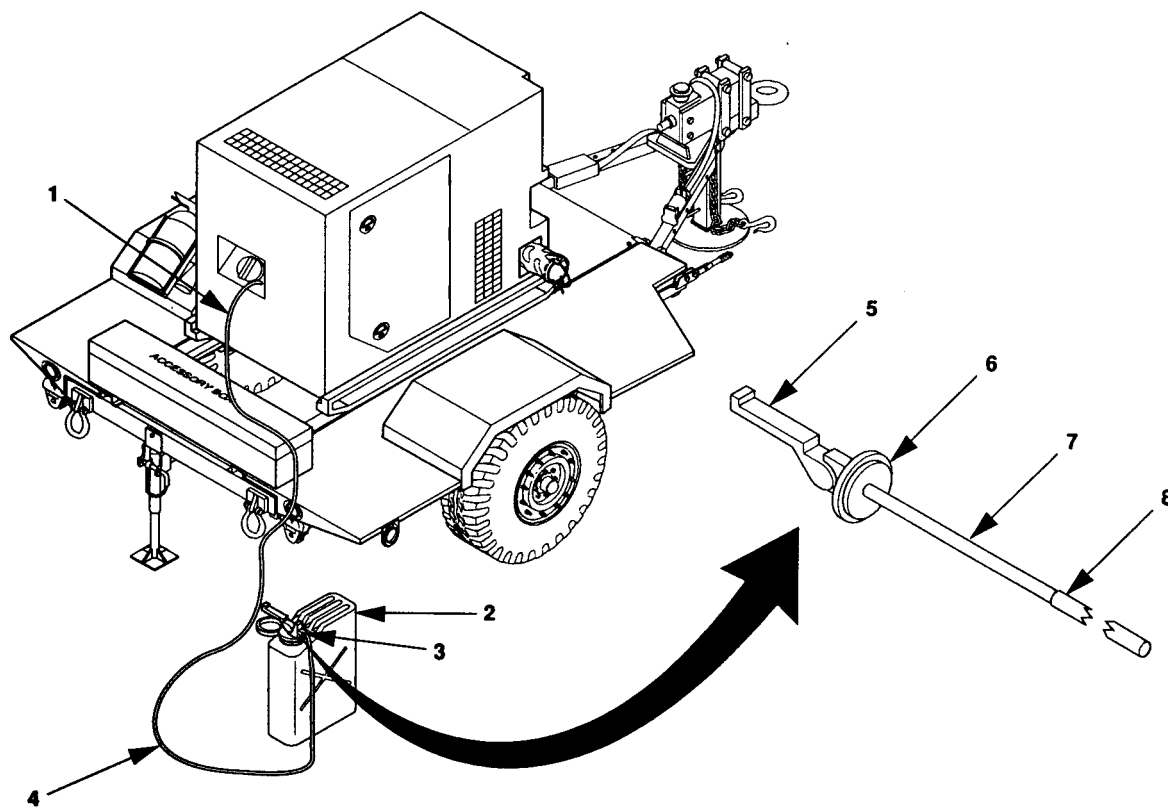

Figure 2-16. Disconnect Auxiliary Fuel (Typical).
- (2) Remove hammer (5).
- (3) Loosely install nut (6).
- a. Disconnect the auxiliary fuel hose (4, figure 2-16) from the generator set external fuel supply connection (1). Elevate the free end of the auxiliary fuel hose to drain fuel back into the external fuel source (2). Place free end of auxiliary fuel hose on a clean surface.
- b. Disconnect auxiliary fuel hose (4) from fitting on container adapter (3).
- d. Release the container adapter from the external fuel source by lifting the handle of the clamp (5). Remove the container adapter from the external fuel source. Close the external fuel source and load onto appropriate transportation.